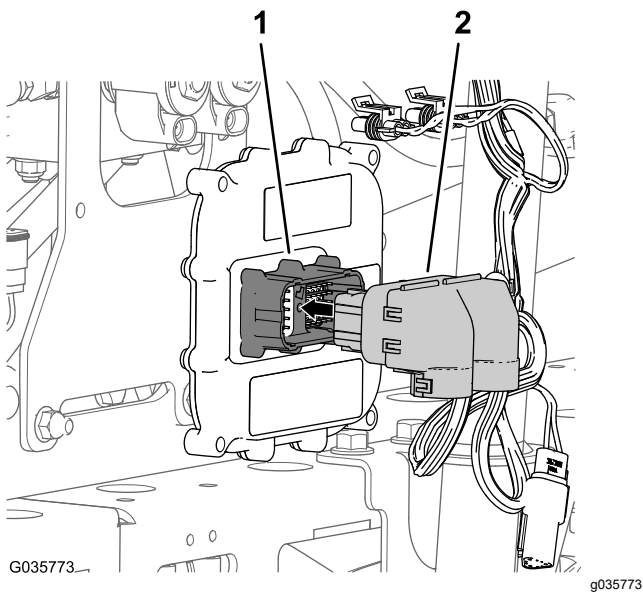

Figure 27
2. Connect the 50-socket connector of the wire harness for the sonic boom to the 50-pin connector of the electronic controller, and secure the connectors with the socket-head screw (Figure 27).